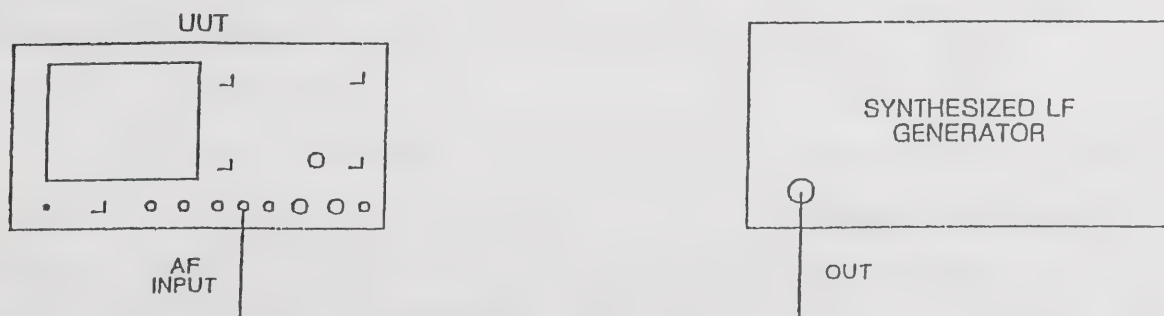

Fig. 3-6 Test equipment connections for adjusting R305 and R314 on AB5/I
- (1) Connect the equipment as shown in Fig. 3-6.
- (2) Set the synthesized LF generator to give a 1 kHz sinewave at a level of 1 V RMS.
- (3) Set the UUT to RECEIVER TEST, distortion-SINAD-S/N off, AC coupled, 50 kHz low-pass filter.
- (4) Note the reading on the UUT AF voltmeter.
- (5) Select the band-pass filter on the UUT. Now adjust R305 to obtain the same AF voltmeter reading on the UUT display as was indicated with the 50 kHz low-pass filter selected.
- (2) Set the synthesized LF generator to give a 1.007 kHz sinewave at a level of 1 V RMS.
- (3) Set the UUT to RECEIVER TEST, AF generator, 0.3 to 3.4 kHz band-pass filter, AC coupled, distortion on.
- (4) Adjust R314 for the minimum possible distortion reading on the UUT display.